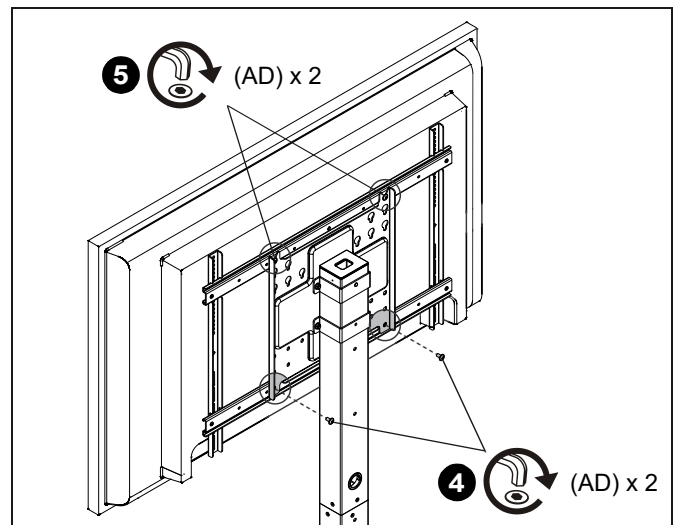

Figure 14
4. Install two 5/16-18 x 5/8" screws (AD) through the face plate assembly (A) into the lower horizontal interface (L). (See Figure 14)
5. Tighten two 5/16-18 x 5/8" screws (AD) in upper horizontal interface. (See Figure 14)